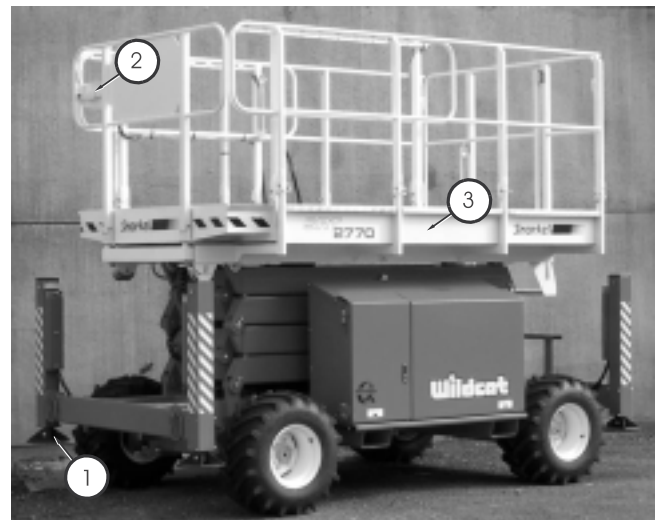
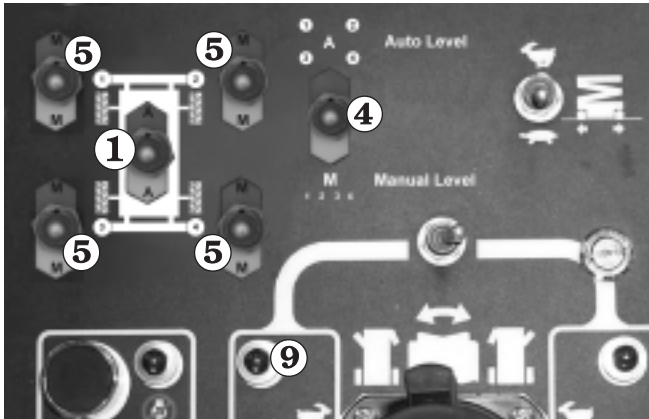
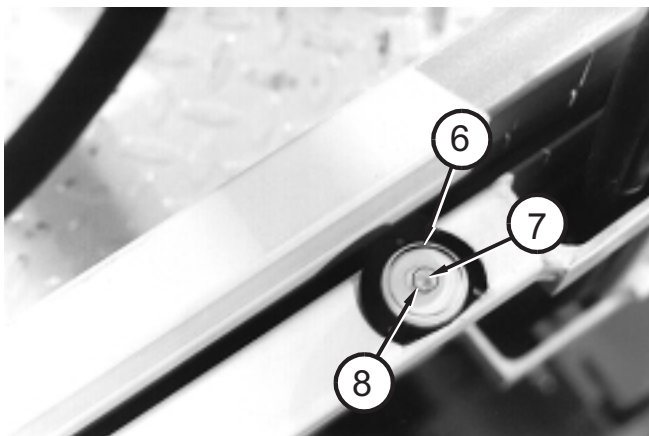

Figure 8.28
Figure 8.29
Figure 8.30
- Check to see that the ground under the four outrigger pads ① (see Figure 8.28) is firm, stable, and unobstructed.
- Completely lower the platform ③ (see Figure 8.28).
3. The engine must be running and the SR set for platform control box **2** operation (see Figure 8.28).
4. Hold switch **4** 'ON' (down) while each individual switch **5** (see Figure 8.29) is pulled backward, one at a time, until all four outrigger pads **1** contact the ground (see Figure 8.28).
5. Visually check the bubble level **6** (see Figure 8.30) to determine which outriggers must be further extended to level the platform **3** (see Figure 8.28).
6. Lower the appropriate outriggers just enough to center the bubble **7** (see Figure 8.30). When the **Lift Indicator Light 9** (see Figure 8.29) comes on, the platform can be safely raised.
2. Hold switch **2** 'ON' (down) while each individual switch **1** (see Figure 8.30) is pushed forward, one at a time, until all four outrigger are completely up.